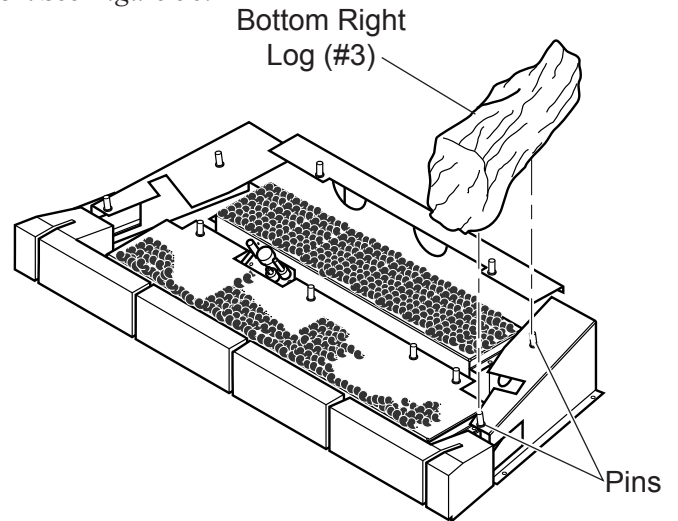

Figure 48 - Installing Bottom Right Log (#3)
4. Place bottom right log (#3) on two pins against right side of firebox. *See Figure 48.*